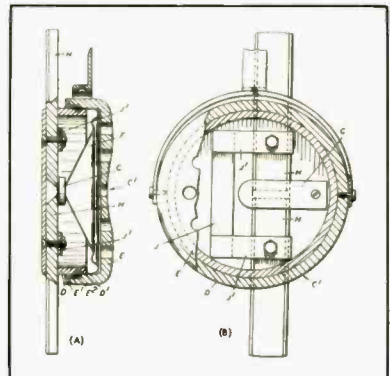

Fig. 1
The special headphones used for reception are shown in the two drawings of Fig. 1. (A) is a cutaway side view and (B) a cutaway front view. We reproduce here the actual drawings from the patent specification, contrary to our usual practice, simply because this is probably the clearest way to show what is largely a mechanical invention. When we refer to the part symbols, look at them in both drawings to give yourself a clear idea of what exists.
The pole pieces *H* are bridged by a permanent magnet. In (B) of Fig. 1 the permanent-magnet arrangement is shown as the magnet itself *J* and two soft-iron pole pieces *J'*; but a C-shaped magnet might be used instead.